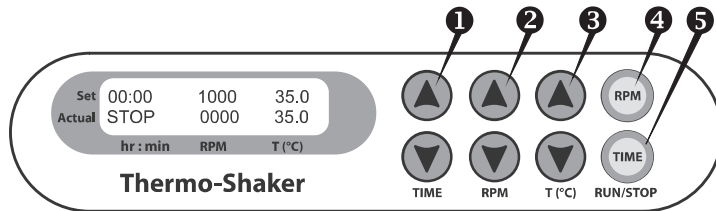

Fig. 1 Control panel
4.3 Using the ▲ and ▼ keys (Fig. 1/①) set the required working time interval in hours and minutes (increment - 1 min). Pressing the key for more than 3 s will increase the increment.
4.4 Using the ▲ and ▼ keys (Fig. 1/②) set the required speed (increment 10 RPM). Pressing the key for more than 3 s will increase the increment.
4.5 Using the ▲ and ▼ keys (Fig. 1/③) set the necessary temperature (increment 0.1°C). Pressing the key for more than 3 s will increase the increment.
4.7 Press the **RPM-RUN/STOP** key (Fig. 1/⊕). The platform will start rotating and the timer indicator will start counting up the time interval (with 1 min precision).
4.10 The timer can be reset during operation if required. Press the **TIME-RUN/STOP** key once (Fig. 1/⊕) to stop the timer. Press the **TIME-RUN/STOP** key again to restart the timer.
Caution! At the end of the set time period the platform movement is stopped automatically, but the heating can be stopped only by reducing the temperature using the **▼ T(°C)** key (Fig. 1/⊕ lower key) till the OFF sign appears in the upper part of the display.
Following error codes are show in the lower right corner of the display (fig. 1), accompanied by a sound signal every 8 s. Press **RPM RUN/STOP** key to turn off the signal. Please contact our Service Department in the UK or, in other countries, our distributor.